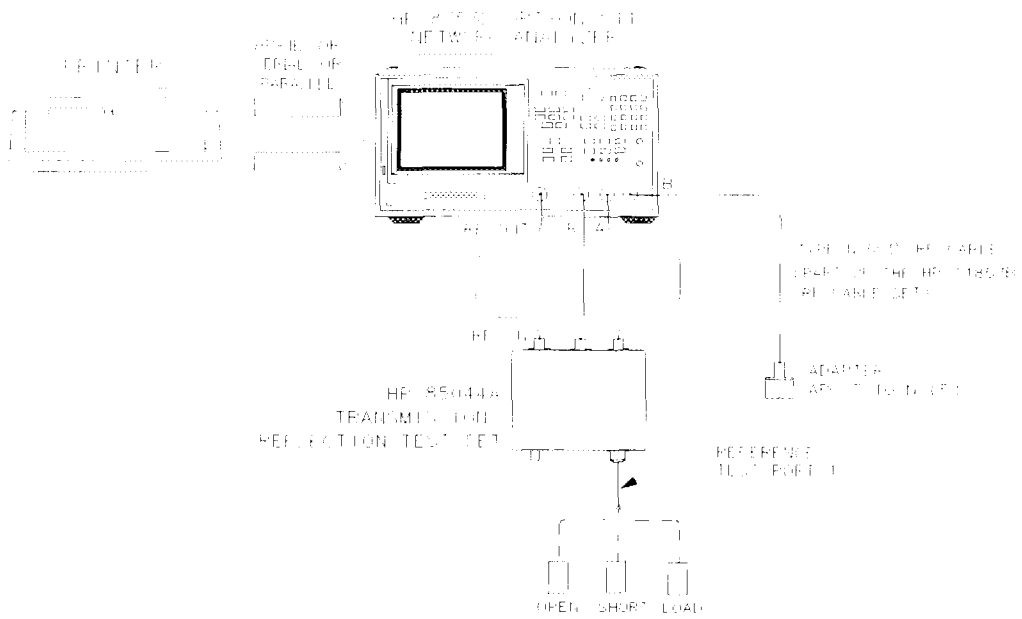

Figure 5-9. Connections for Measurement Calibration Standards
- 4 Connect the “open” end of the open/short combination (supplied in the calibration kit) to reference test port 1, as shown in Figure 5-9.
- 6 When the analyzer finishes measuring the standard, connect the “short” end of the open/short combination to reference test port 1, as shown in Figure 5-9.
- 8** When the analyzer displays the message *CONNECT STD THEN PRESS KEY TO MEASURE*, connect the 50 ohm termination (supplied in the calibration kit) to reference test port 1, as shown in Figure 5-9.